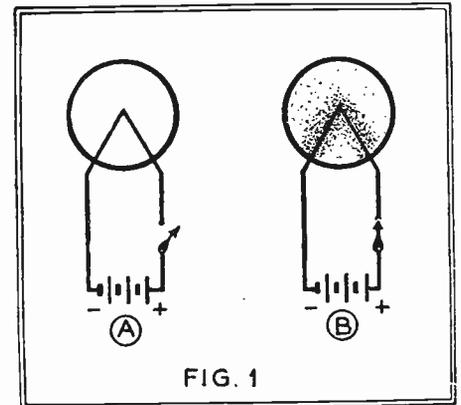
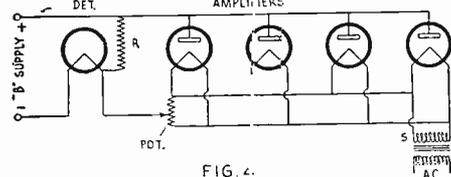

FIG. 1
FIG. 4. Using the plate-supply of the amplifier tubes for heating the filament of a 199 detector tube. The grids are omitted, for simplicity.
Before continuing with the discussion on regeneration, the wiring diagram of a regenerative receiver will be considered. Fig. 1 shows the circuit of a simple "three-circuit tuner" (more properly "two-circuit") in schematic form; this represents what was once one of the simplest, most popular and most frequently-used receivers. It is easy to operate, as there are only two tuning controls, and it provides amplification which is practically equal to that of a two-stage tuned R.F. receiver with a non-regenerative detector. Of course, the overpowering disadvantage of this system of reception is that, when it is not properly operated, it will oscillate and the radiated energy from the antenna will interfere with reception in nearby receiving sets. For that reason, operation of an oscillating regenerative set is in some places punishable by law; and might be in this country under the Radio Act.
cation, which prevents radiation from the antenna. The essential piece of apparatus is the three-coil coupler (L1). This consists of a primary coil (P) of a few turns which is connected directly in the antenna circuit or preceding R.F. circuit, a secondary coil (S) tuned to the desired wavelength by a variable condenser (C), and a tickler coil (T). The primary and secondary coils are usually wound on the same tube form and are coupled "tightly." The tickler coil is found on a separate tube, and the coupling between the secondary and the tickler is adjustable by rotating the tickler on its shaft. As may be seen from the diagram (Fig. 1) the secondary is connected in the grid circuit of the receiver and the tickler is connected in the plate circuit. By adjusting the coupling of the tickler the feed-back or regeneration may be increased.
From the diagram it will be seen that energy from the antenna circuit is transferred to the grid circuit in exactly the same way as in Fig. 1; that is, the primary coil (P) of the antenna coupler (L1) is connected between the aerial and ground, and the secondary coil (S) is connected
In operating this receiver the grid circuit was tuned to the wavelength of the desired station, and the variometer employed to control regeneration. As the wavelength of the variometer was adjusted to approach the wavelength of the grid circuit, the regeneration increased. This is because the alternations in the plate circuit were forced to return to the grid circuit through the small *capacity* (condenser) formed by the close proximity of the grid and plate elements of the tube. Of course, in this circuit regeneration would produce an effect upon the signal identical with that obtained by using the circuit in Fig. 1. Also, regeneration would cease and the tube breaks into oscillations when the feed-back passed a certain critical value.
There are three basic ways in which regeneration may be produced in a radio receiver; the first two are illustrated in Figs. 1 and 2, and the third in Figure 3. The last is popularly known as the Reinartz circuit, as it was first introduced for the reception of short-wave "C.W." signals by the well-known amateur experimenter, John L. Reinartz. This circuit, which employs a combination of inductive and capacitive feed-back methods, has been found excellent for the reception of continuous-wave (code) signals but is not as satisfactory for the reception of phone signals as the two circuits previously described. It is only one of a number of different circuits which use this system of regeneration, but is probably the best known of its type.
In this circuit the grid and antenna circuits are arranged in much the same way as in Figs. 1 and 2; the chief difference being that the primary coil (P) and the secondary coil (S) of the coupler (L1) are coupled together conductively as well as inductively. However, the plate circuit is very different. First, it will be noticed that there is an R.F. choke coil connected between the plate of the tube and the phones. This prevents the R.F. current from being short-circuited through the phones to the filament. Next, it may be seen that there is a wire which connects the plate of the tube to one end of the plate coil (T) of the coupler, and that the other end of the plate coil is capacitively coupled to the primary and secondary coils through the variable condenser (C2).
Before concluding this article, it should be pointed out that there is another entirely satisfactory method of obtaining the beneficial effects of regeneration, and known as the Roberts circuit (see Fig. 6). In this circuit a stage of neutralized radio-frequency amplification is combined with a regenerative detector of the type in Fig. 1. Only two tubes are used in the circuit, yet the results will be equally satisfactory from which may be secured with a three-tube circuit of the type shown in Figs. 4 and 5.
example, evaporates slowly but, as it is heated, more and more evaporates; and finally there is violent "ebullition" (boiling) and the water becomes steam and passes into the atmosphere. The action of evaporating water and the escape of particles of matter from a heated filament are very similar. (See Fig. 1.)
This type of circuit drawing explains more clearly the meaning of the different parts diagrammed in Fig. 4, the connections being exactly the same.
The chief cause of the fundamental-frequency hum (let us say 60-cycle, 110-volt power is being used) is what is called the grid-and-plate effect. By this is meant the effect of the A.C. filament voltage upon the plate and grid respectively when the grid return and "B—" are connected to one side of the filament, as shown in Fig. 1. S is the low-voltage secondary of a transformer supplying the current necessary to heat the filament. This supply is alternating and therefore voltages at the filament terminals, A and B, are constantly alternating, plus and minus. Since the average voltage of the filament is one-half the applied voltage, then C, the center of the filament, is at a constant potential with respect to the terminals collectively. For when C is positive with respect to B, it is positive with respect to A, and *vice versa*; always by the same amount.
Fig. 1 is a circuit which will let through the A.C. hum. In Fig. 2A is a Wheatstone bridge, illustrating the principle of the circuit in 2B which remedies this fault. Fig. 3 illustrates the elements of the A.C. tube.
Another method of detection is to use a UX-199 tube and heat its filament with the plate current of the other tubes, adding what additional current is needed to make up 60 milliamperes by connecting a resistor, R, in the "B" supply, as shown in Fig. 4. This method should not be employed except when a "B" socket-power unit is used; and then only when the user is absolutely sure it will deliver the 60 mill amperes at the voltage required without being ruined by the load.